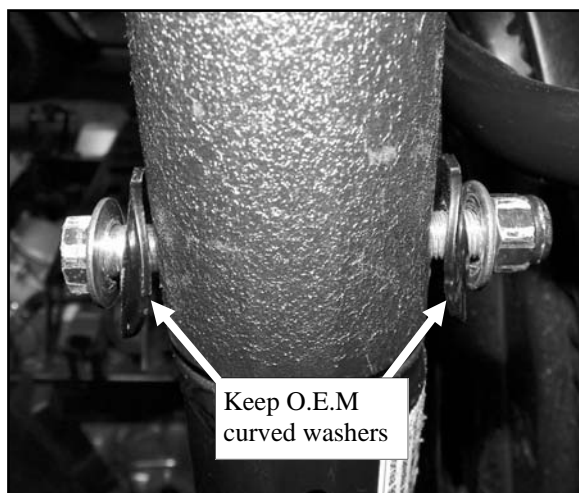

Fig. 6.3 (View of rear right corner)
6.3 See fig. 6.3. Remove and discard the O.E.M. cross bolt and nut. Keep the two O.E.M. curved washers. They are to be reinstalled in the same orientation against the front and back of the R.O.P.S. tubing.